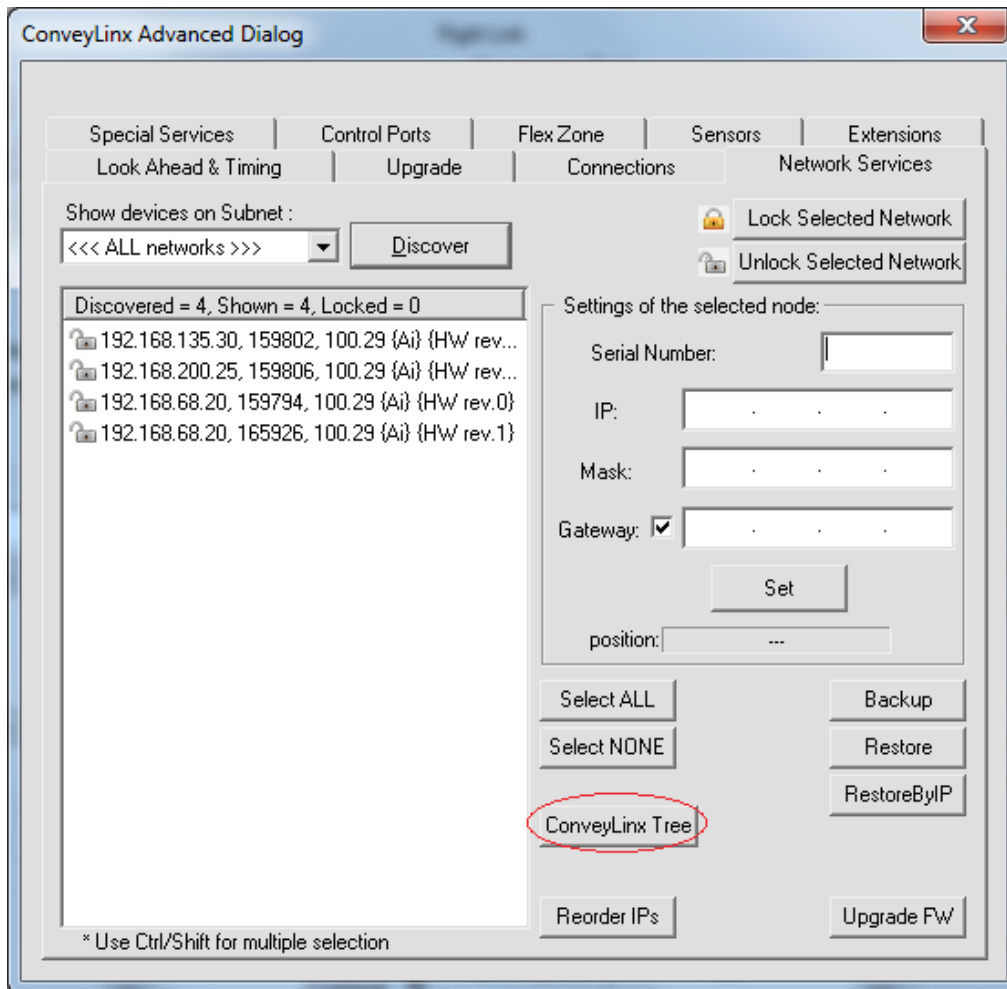

FIGURE 24 - DISCOVER PROCEDURE ON CONVEYLINX-AI2 MODULES
2. When the ConveyLinx Ai2 modules appear in the module table, select the ones that you want to configure and click "ConveyLinx tree" as shown in Figure 24.